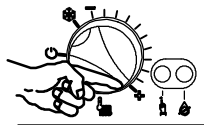

Fig. 2.5
The output temperature of c.h. water is adjustable from a minimum of about 25°C to a maximum of about 85°C (Fig. 2.5), by turning the knob (7).